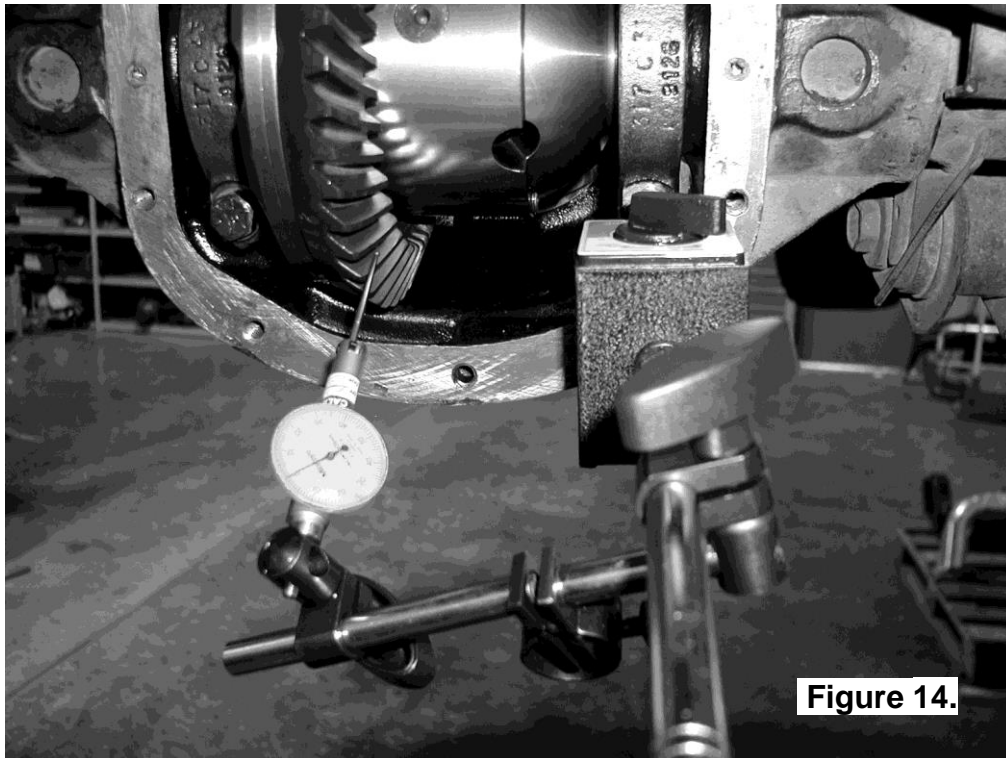

Figure 14.
- Set a depth indicator on one of the ring gear teeth as in Figure 14.